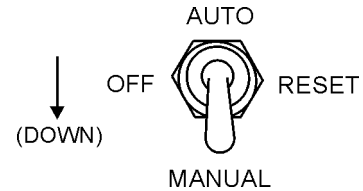

Figure 27. Off/Manual/Auto Switch (Manual)
8. Place the Off/Manual/Auto switch (Figure 27) in the **MANUAL** position (down). Observe that the engine begins to crank.